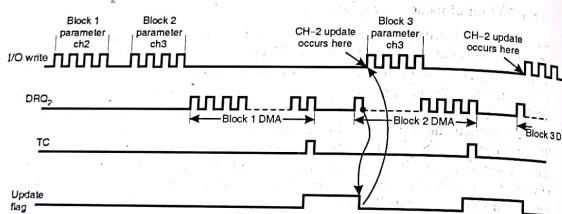

Fig. 17.14.3 : Autoload timing
- The autoload timing diagram is shown in Fig. 17.14.3.